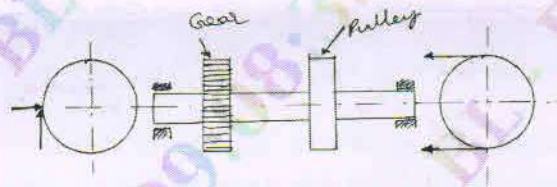

Fig. Q6
- 6 A uniform circular carbon steel shaft made of SAE 1025 annealed is mounted on two bearings 850 mm apart as shown in the Fig. Q6. The shaft carries a gear A at 200 mm to the right of the left bearing and a pulley B at 250 mm to left of the right bearing. The gear is subjected to horizontal force of 3500 N and a vertical upward force of 9600 N. The pulley is driven by a belt with a tension on tight side to be 6000 N and on the slack side to be 2000 N. The shock and fatigue factors for bending and torsion as $K_m = 2$ and $K_t = 1.5$ respectively and weight of the pulley to be 1500 N. Design the diameter of the shaft for yield stress taking factor of safety as 3. Draw neatly the sketch with loading and bending moment diagram.